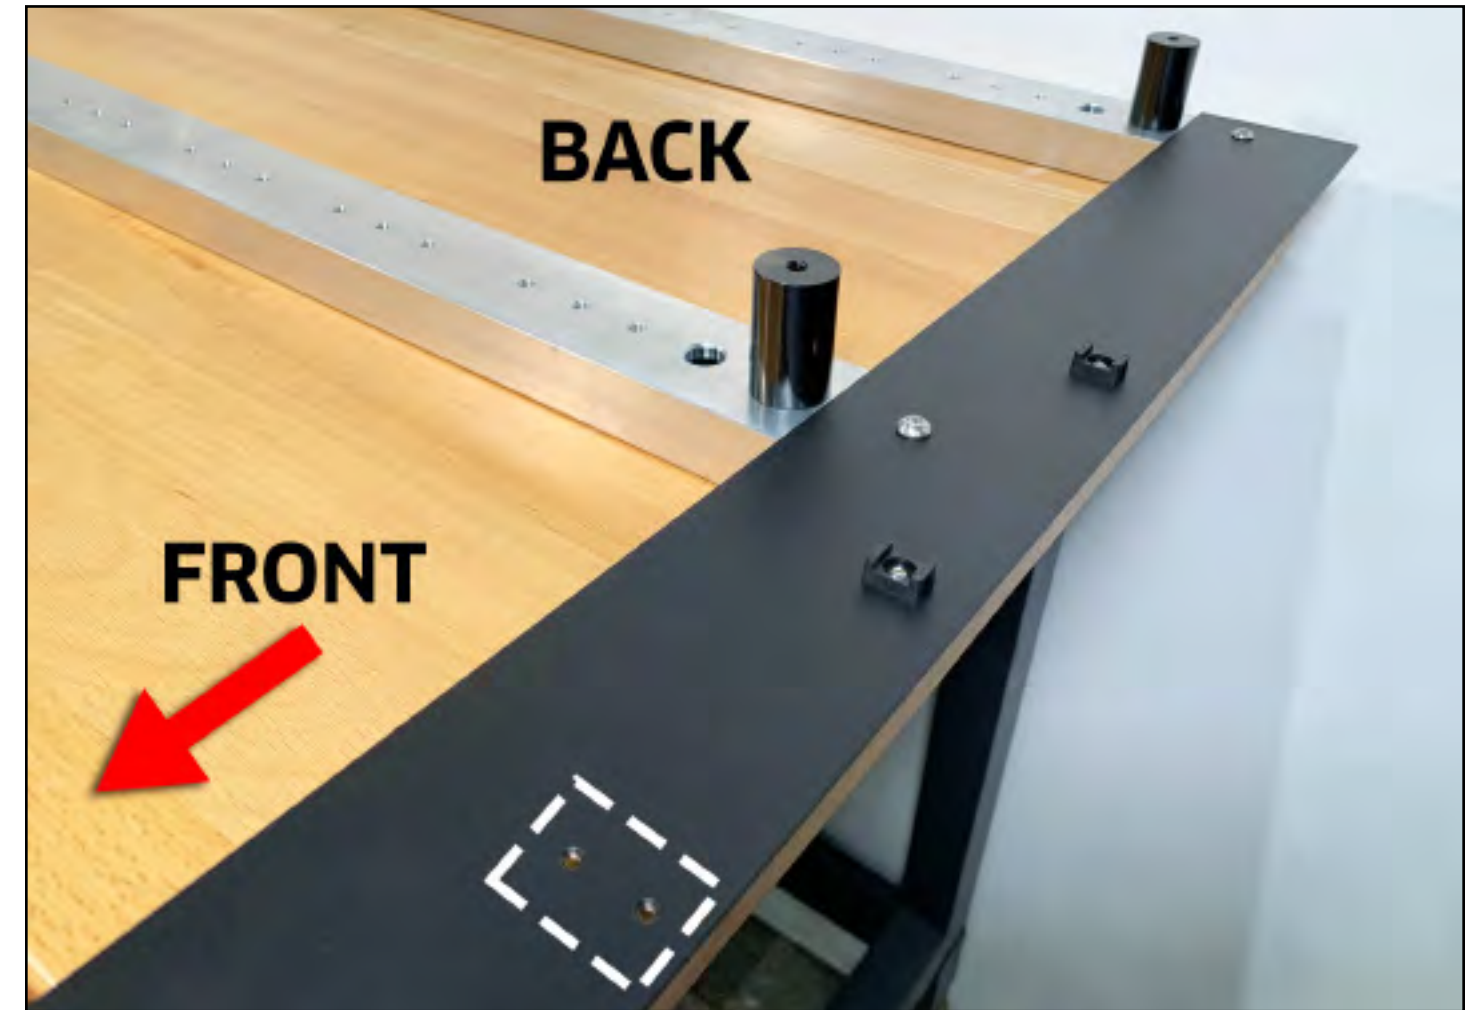

Figure 1-3
1. Use a 2mm hex key and four (4) M3×6mm BHCS to secure two (2) cable tie mounts to each support panel. See **Fig. 1-3**.